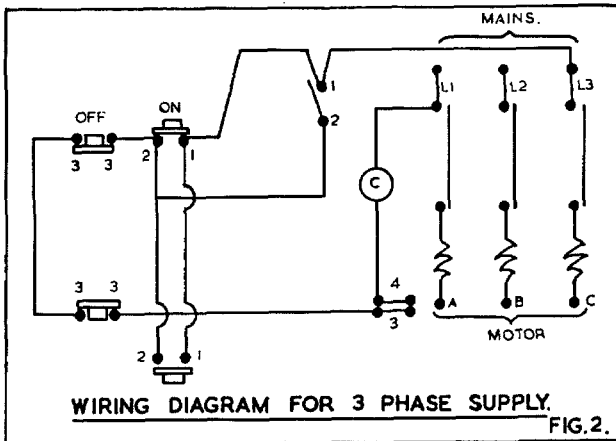

FIG. 2.
4. Connect the line leads to the appropriate terminals. See fig. 2 for 3 phase supply.